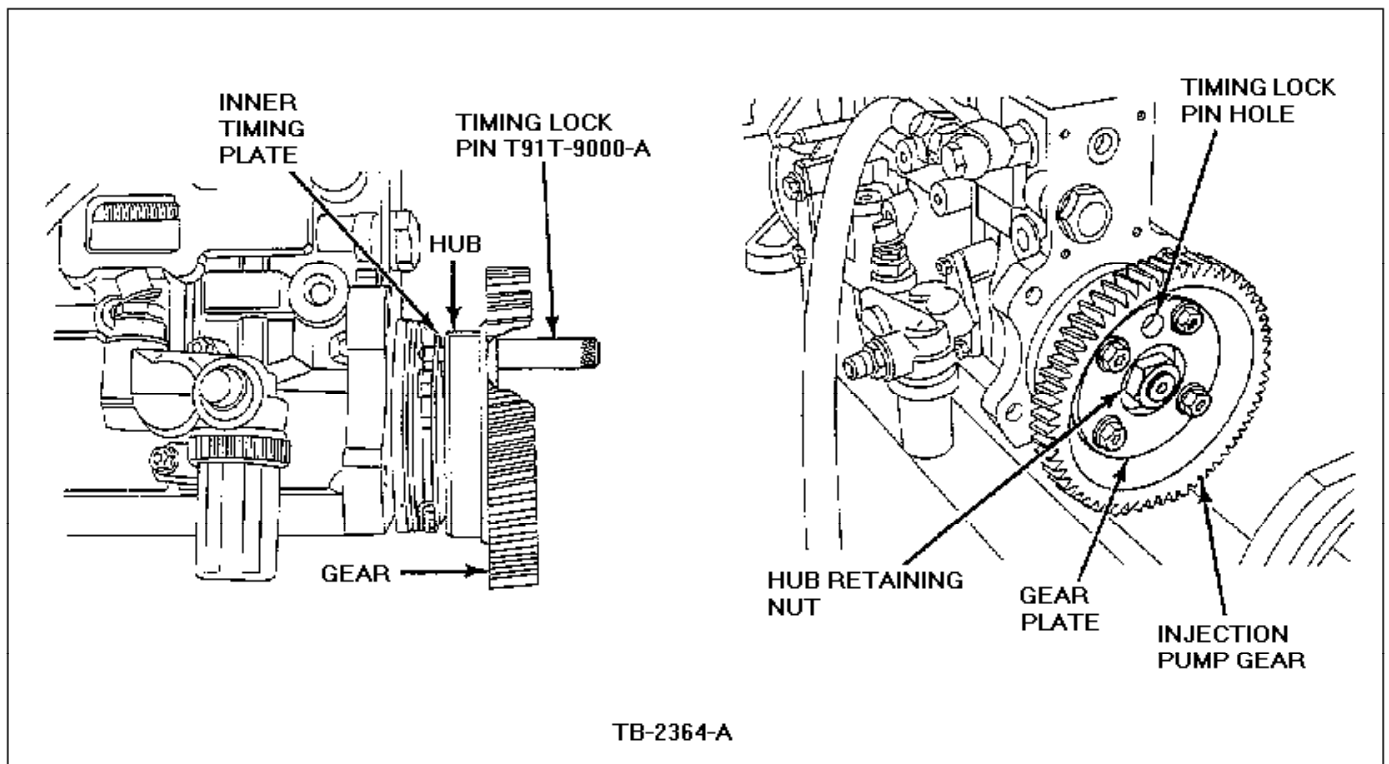

Figure 3 - Article 91-21-14
3. Insert the Injection Pump Aligning Pin (T91T-9000-A) through the gear plate, gear, hub and into the inner timing plate hole, Figure 3.